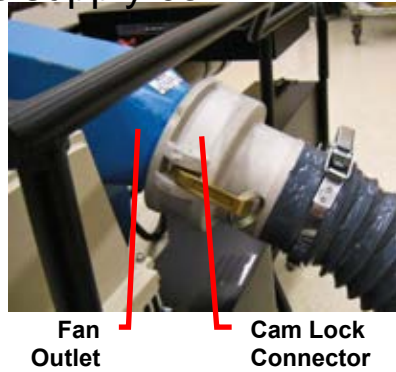
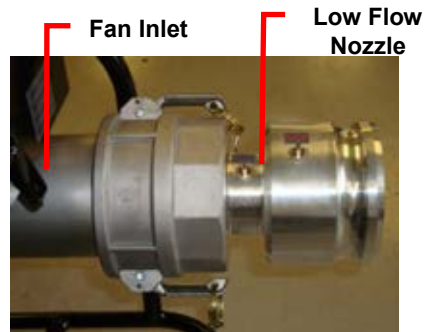

Figure 6. Positive Pressure, High-Flow Set-Up
Figure 7. Positive Pressure, Low-Flow Set-Up
- a. For positive pressure, high-flow testing, remove the low flow nozzle if it is installed. Then, connect the grey cast-aluminum cam lock connector to the outlet side of the blower per Figure 6. Close both cam lock arms at the same time to ensure proper fit.
- b. For positive pressure, low-flow testing, add the low-flow nozzle to the blower inlet if it is not installed per Figure 7. Then, connect the grey cast-aluminum cam lock connector to the outlet side of the blower per Figure 6. Close both cam lock arms at the same time to ensure proper fit.
3. Connect the (+) port on the Model 5825 to **P3 (+)** to measure the duct static pressure (see Figure 6).